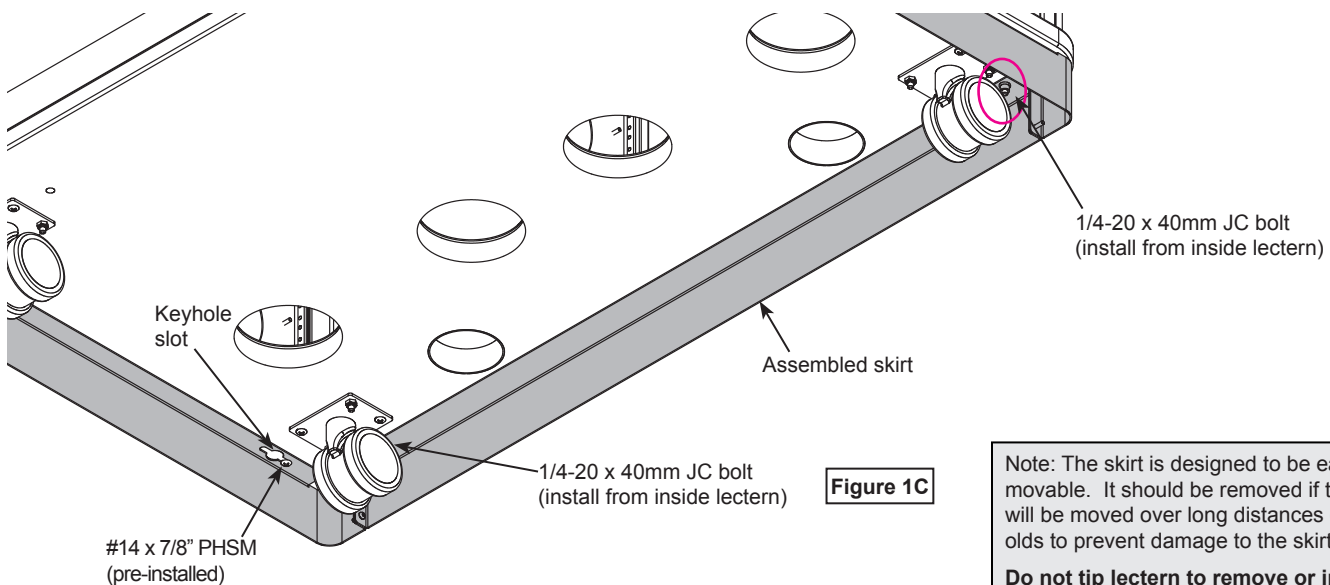

Figure 1C
3. Hook the skirt keyhole slot at the end of each side skirt over the pre-installed #14 x 7/8" PHSM screw. **Figure 1C.**
4. From inside the lectern (on audience-side), install (2) 1/4-20 x 40mm JC bolts through the base panel to secure the assembled skirt, and tighten securely.